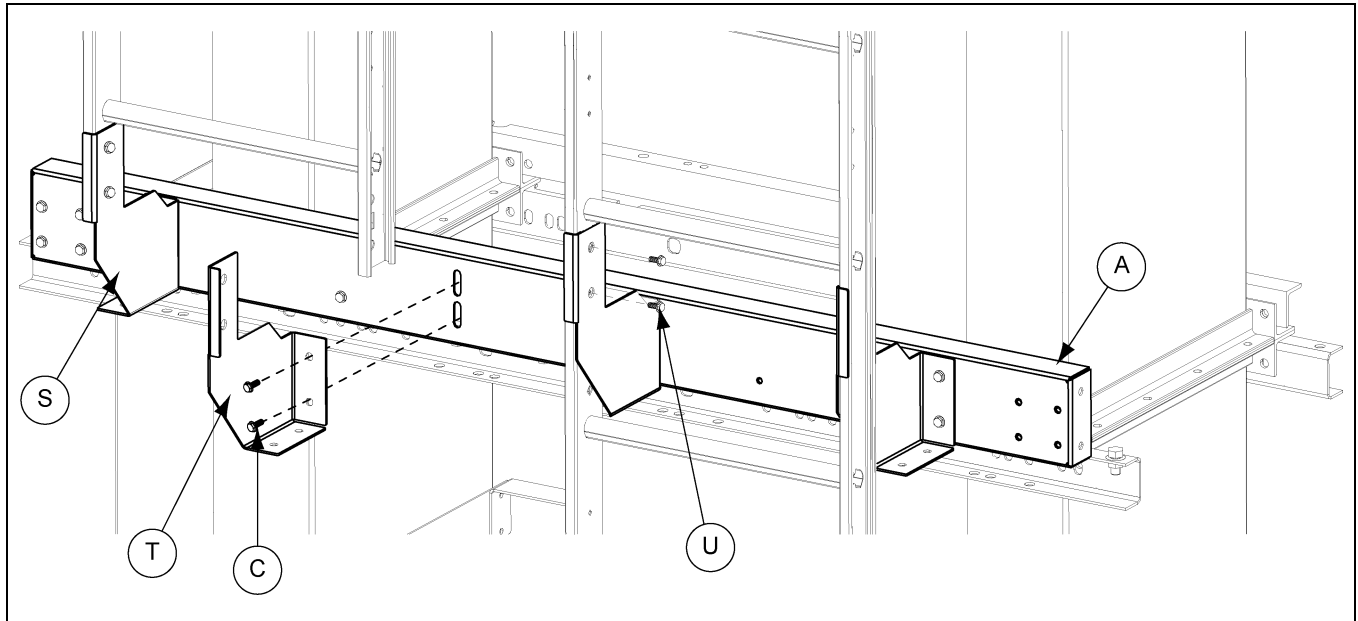

Figure 7N
10. Attach ladders to ladder support brackets using 1/2" x 3/4" hex bolts. (See Figure 7N.)